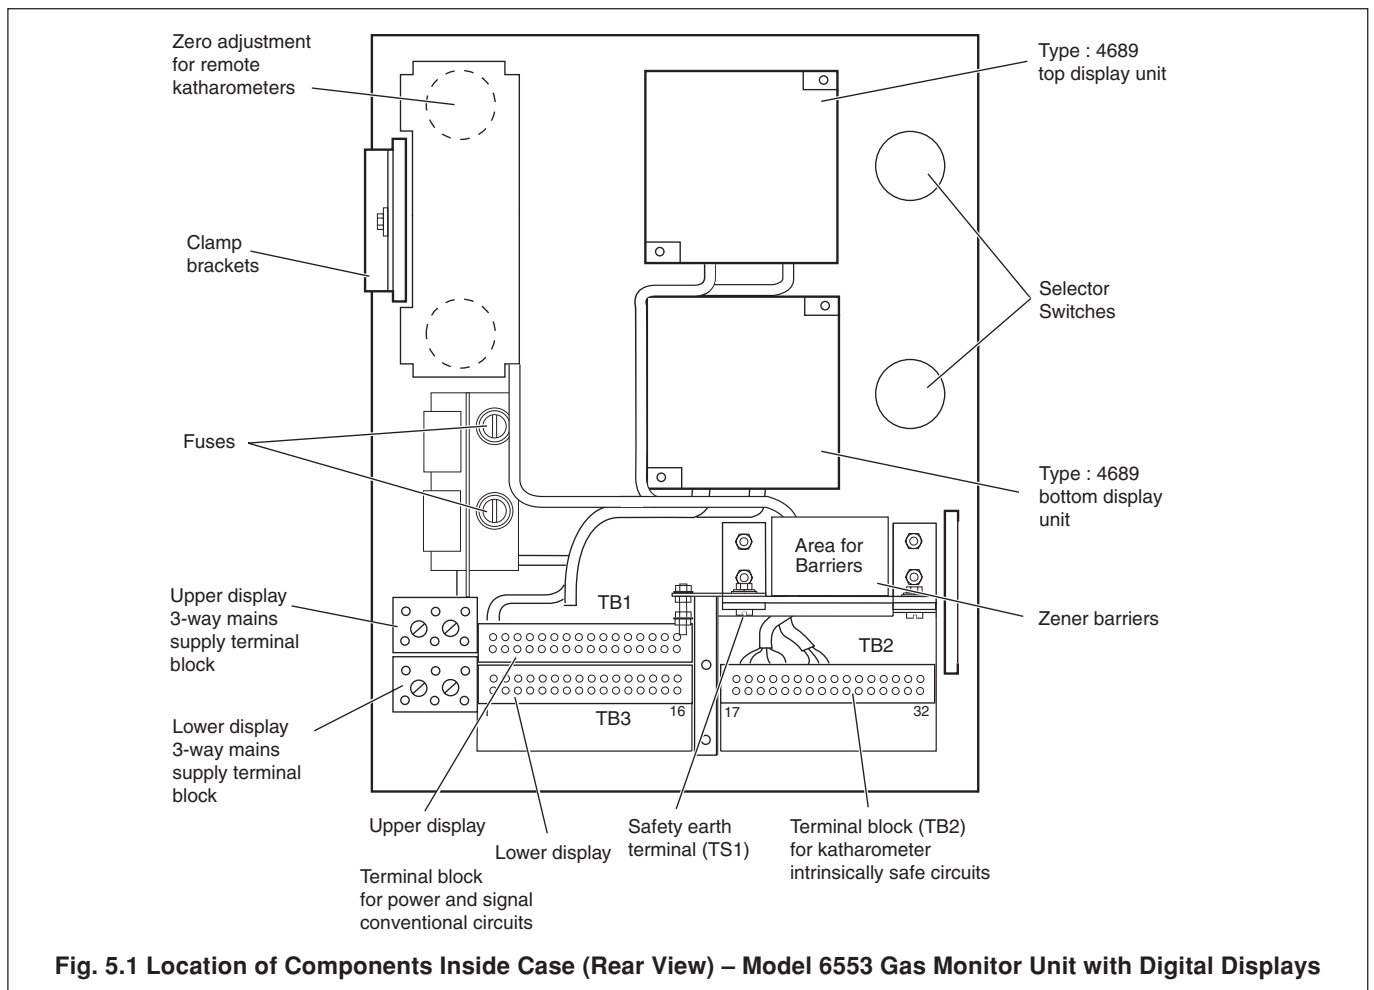

Fig. 5.1 Location of Components Inside Case (Rear View) – Model 6553 Gas Monitor Unit with Digital Displays
5.1.1 Model 6553 Gas Monitor – Fig. 5.1
The electrical connections are made through the appropriate cable gland at the bottom of the unit into the terminal block immediately above them. There are separate cable glands for wires to the **hazardous** and **safe** areas – see Fig. 5.1.
Make the Earth (Ground) and **Safety Earth** connection at the stud (TS1) – see Fig. 5.1.